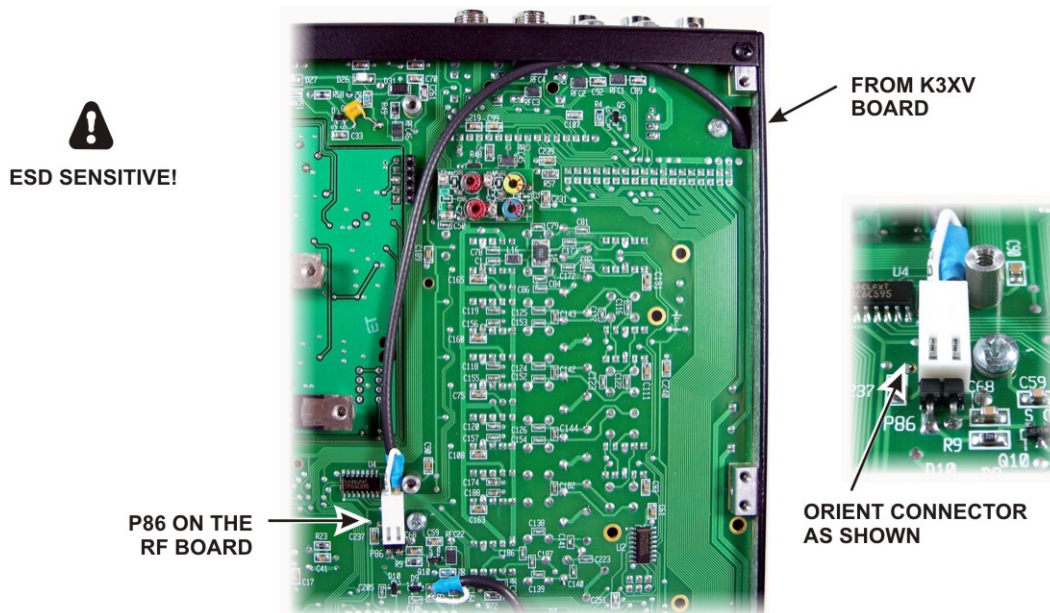

Figure 12. Routing KXV3 Cable to P86.
- Route the coaxial cable from the KXV3 board to connector P86 on the bottom of the RF board as shown in Figure 12. Mate the connector to P86 as shown. If the connector does not appear to fit, check to make sure there are no plastic ridges on the side toward the RF board (see Figure 8).